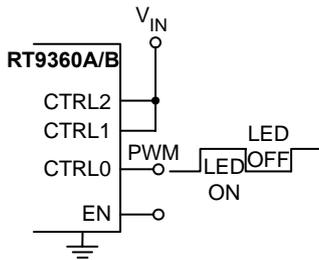
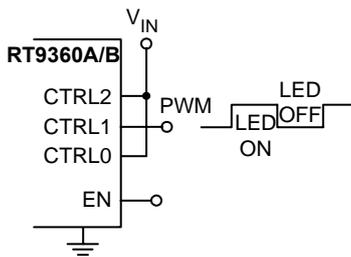
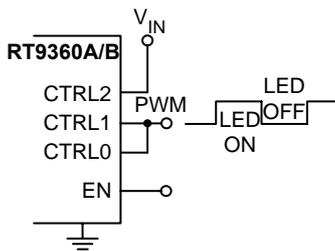

Figure 4. The PWM dimming application circuit for 4WLEDs
Figure 5. The PWM dimming application circuit for 3WLEDs
Figure 6. The PWM dimming application circuit for 2WLEDs
LED current can be controlled by applying a PWM signal to CTRL0, CTRL1, or CTRL2. Table3 shows the relation between CTRLx and 4 LED's current states. For an example, as the CTRL1 and CTRL2 are pulled logical high and CTRL0 receives a PWM signal, then, four LEDs will be dimmed synchronously. Here, the PWM signal setting the LED's current ON/OFF can achieve the average LED's current which in design. The application circuit is shown in Figure 4. Figure 5, and Figure 6 show 3WLEDs and 2WLEDs PWM dimming application circuit, respectively. During the time of PWM signal logical low, the current is a fixed value and setting by R_{SET} resistor. So the average LEDs current can be approximated as Equation (3).